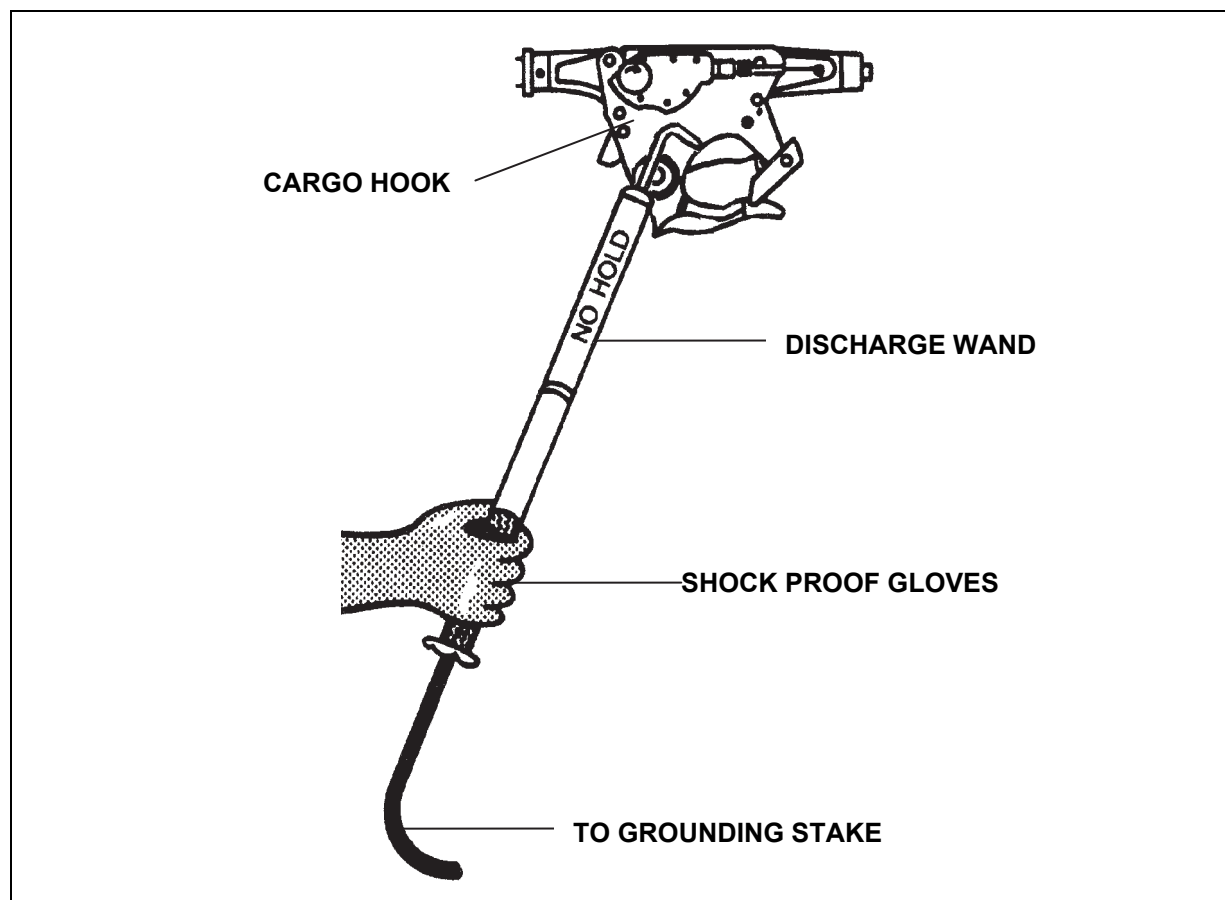

Figure 3-4. Static Discharge Wand Positioned on Aircraft Hook
- Do not hold the discharge wand within 16 inches of the metal hook end. A strong static charge can jump up to 12 inches. To be effective, the grounding wand must maintain contact with the cargo hook during the hookup operation (figure 3-4). If contact is lost, all personnel